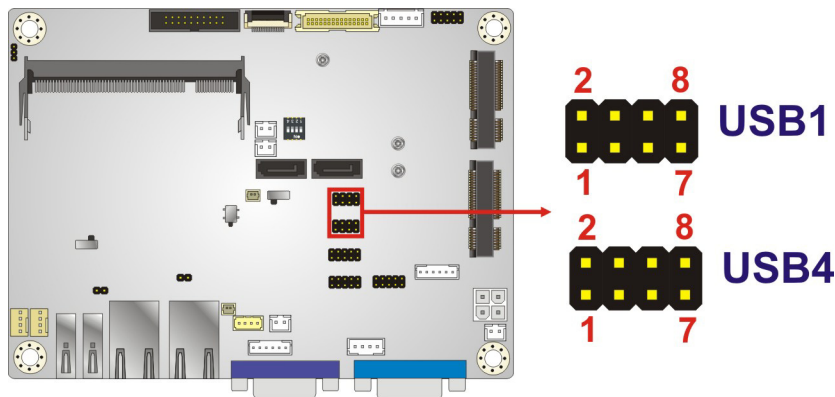

Figure 3-23: USB Connectors Locations
- CN Location: See **Figure 3-23**